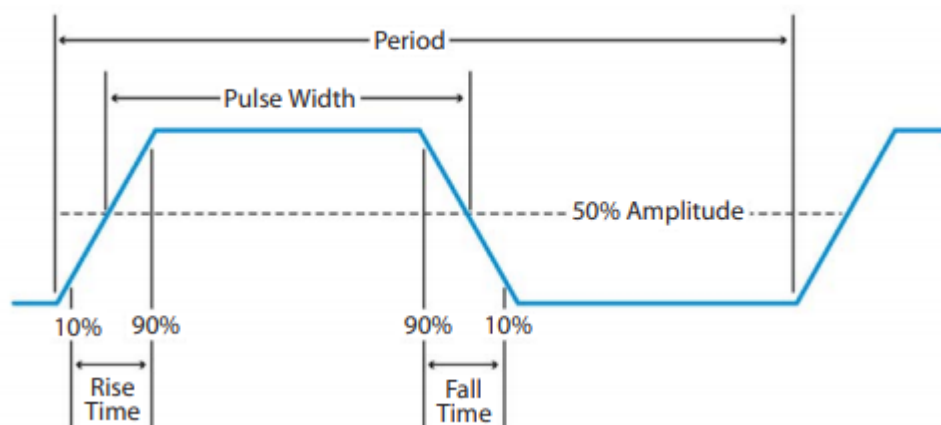

Figure 18:
**Rise and Fall Time:** Edge transition times, also referred to as rise and fall times, are characteristics usually ascribed to pulses and square waves. They are measures of the time it takes the signal edge to make a transition from one state to another. (Figure 18)